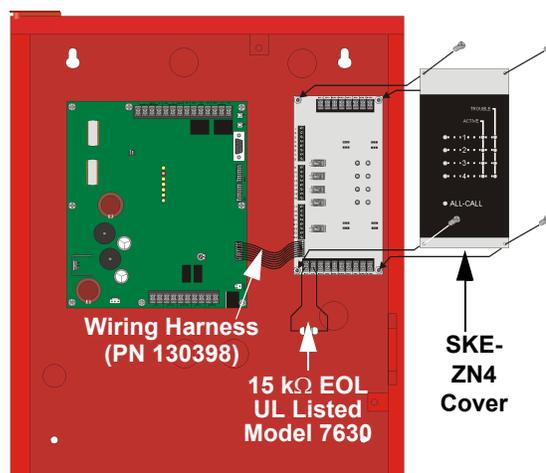

Figure 3: View With SKE-ZN4 Installed
5. Connect wiring harness to the expansion connector on the SKE-450 and to the direct connect pins on the SKE-ZN4. See Figure 3.
7. Attach the cover plate to the SKE-ZN4. See Figure 3.
1. Remove the cover plate on the SKE-ZN4. See Figure 3.